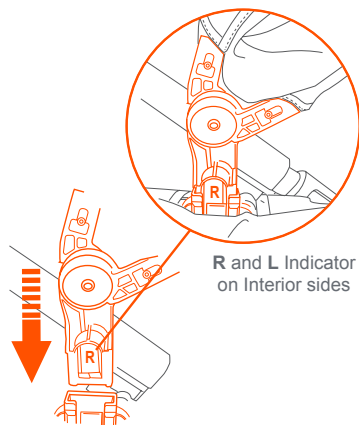
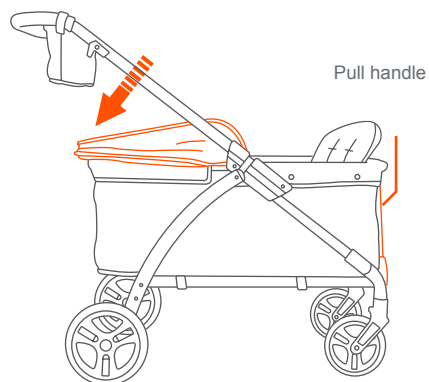

Fig. 6a
Fig. 6c
- 6) • **To install the canopy:** Locate the (Right) and (Left) indicators on the interior side of the connection. From the wagon pull handle end, insert the **R** connection then the **L** connection to the frame. Press in firmly (Fig. 6a) and (Fig. 6c).
- **To close the canopy:** Flip in the visors and push down toward the frame completely (Fig. 6c)